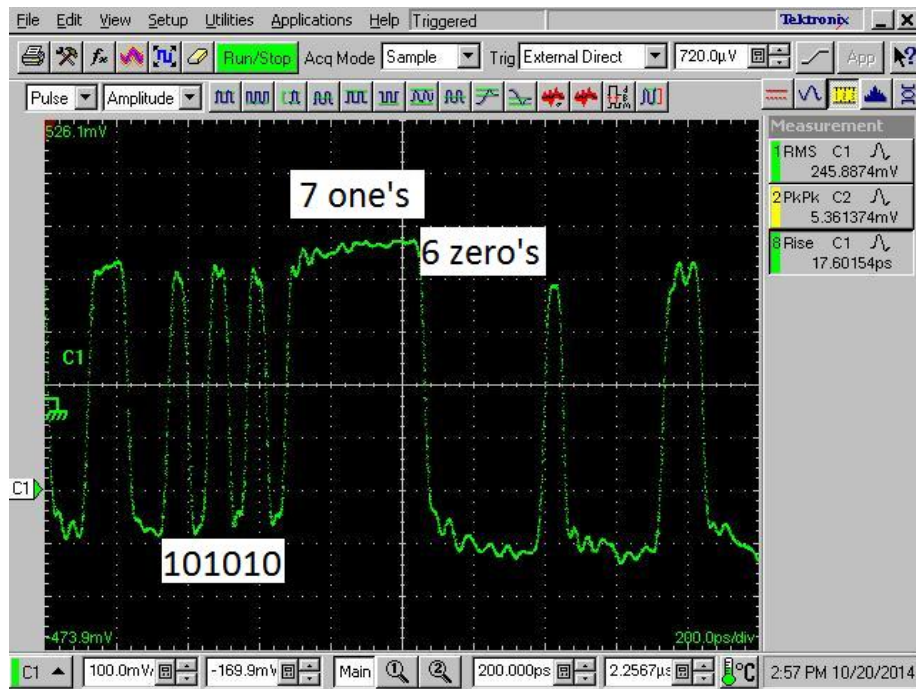

Figure 3. Correct PRBS7 pattern
- Adjust Phase Adjust 1 and Phase Adjust 2 until the correct PRBS7 pattern is displayed as shown in **Figure 3**.